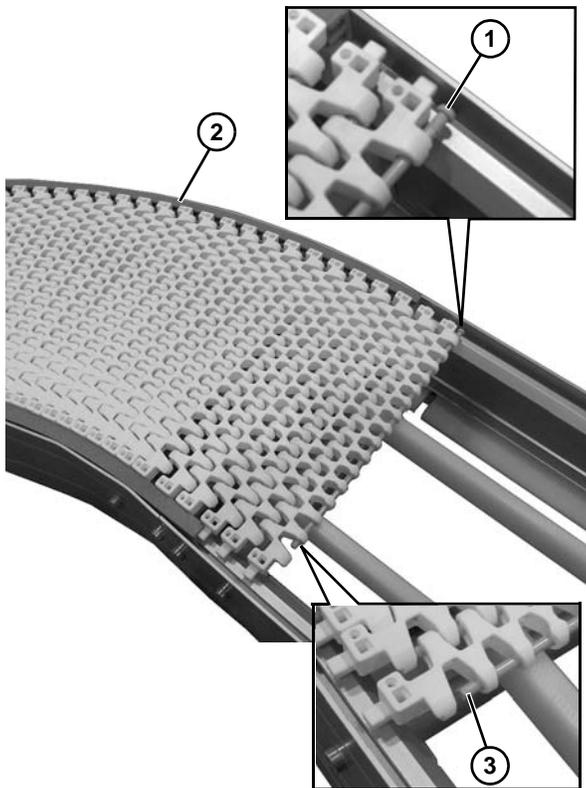

Figure 14
- Orient the belt direction such that the pin heads (Figure 14, item 1) are on the outside of the belt radius (Figure 14, item 2). The straight portion on the pin (Figure 14, item 3) will be on the inside radius.